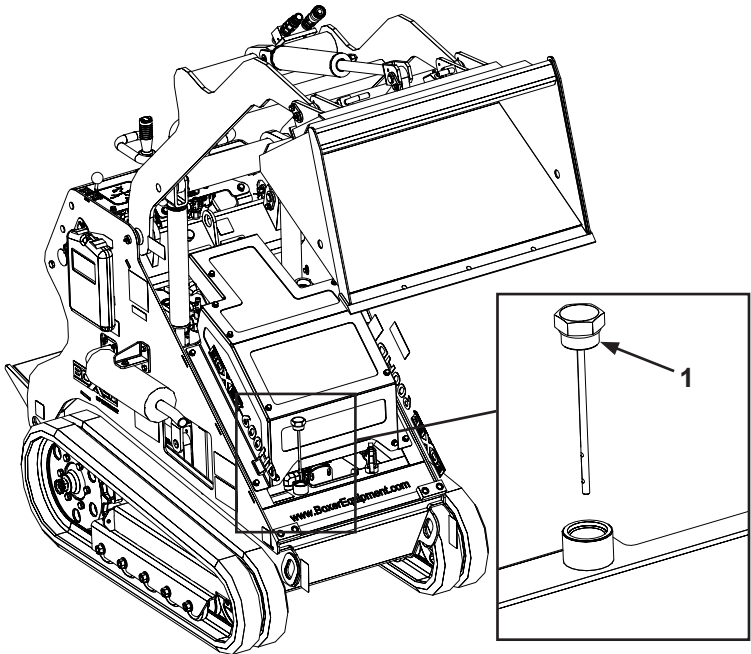

Figure 4-8 Hydraulic Fluid Level Dip Stick
- a. Unscrew the dipstick assembly and remove from the machine. (Item 1, **Figure 4-8**)
- c. Add the proper hydraulic fluid (Chevron Rykon Premium ISO 46 hydraulic fluid or equivalent) through the filler port (Item 2, **Figure 4-8**) .